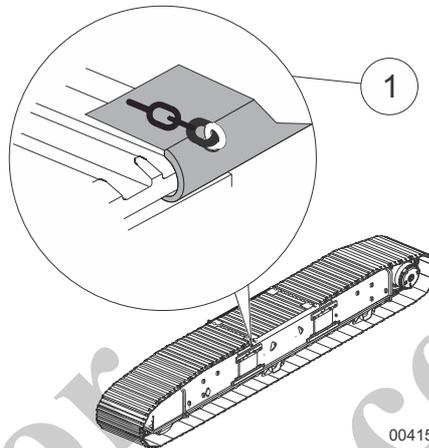

Fig. 130 Attaching the edge guard to the crawler tracks
- 5 Attach the included edge guard (1) in Fig. 130 to the crawler tracks.